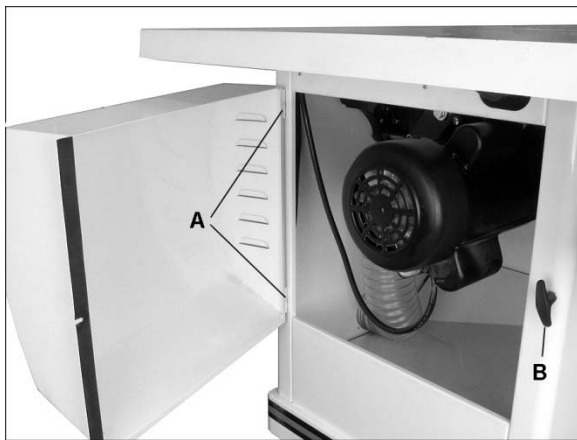

Figure 6
1. Install motor cover by aligning pins on cover with barrels on cabinet (A, Figure 6).
2. Fasten door by pulling out latch (B, Figure 6), closing door, and releasing latch.